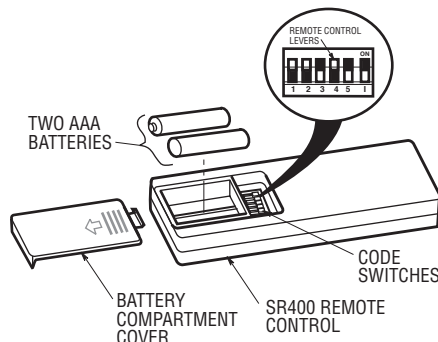

Figure 1
- Remove the battery cover by pressing firmly below the arrow and sliding the cover off the control (Figure 1).
Setting Operating Frequency of Transmitter (Figure 1)